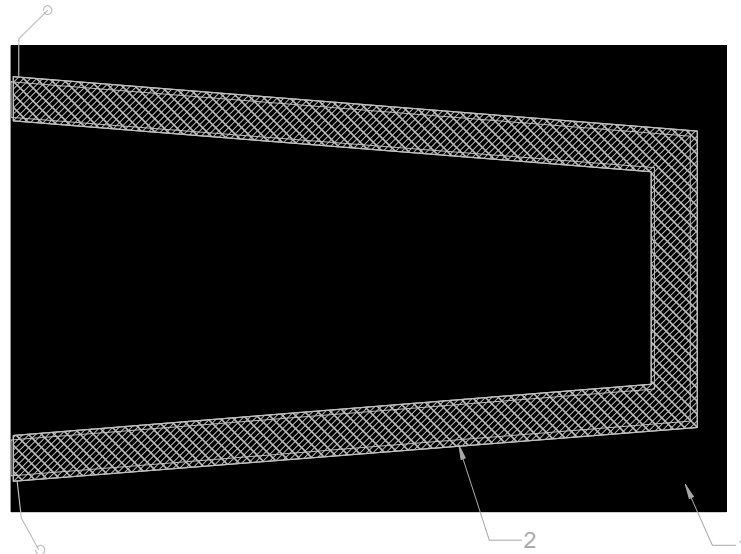

Fig. 6. A DX plate placed on a joint
- 6.2 Connect a DX joint to the welding machine. A single section DX plate is shown in Fig. 6. Plates (multisectional) fitted with more than two terminals are presented in Fig. 7.